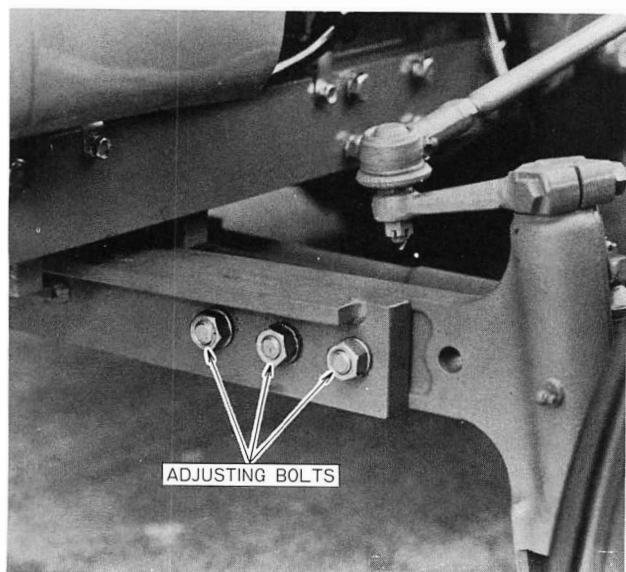

Figure 30 – Front Wheel Tread Settings
The front wheel tread setting is adjustable from 40.4 to 51.0 in. (102.5 – 129.5 cm) by a combination of repositioning the front axle and reversing the front wheels. See Figure 30. Turf tire tread setting is 42.7 – 51.4 in. (108.5 – 130.5 cm).
3. Remove the adjusting bolts, Figure 30, and move the axle sections in or out until the desired setting is obtained, then reinstall the adjusting bolts.